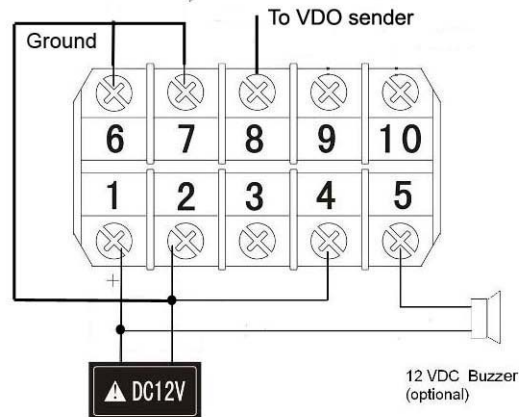

Fig 1. Wiring diagram
1) Wiring the meter as shown in Fig 1. Connect 12 VDC to terminal 1 (+) and 2 (-). Connect the VDO sender to terminal 8. Jump a wire between terminal 6 and 7. Jump another wire between terminal 6 and 2. The 12V DC buzzer is optional.